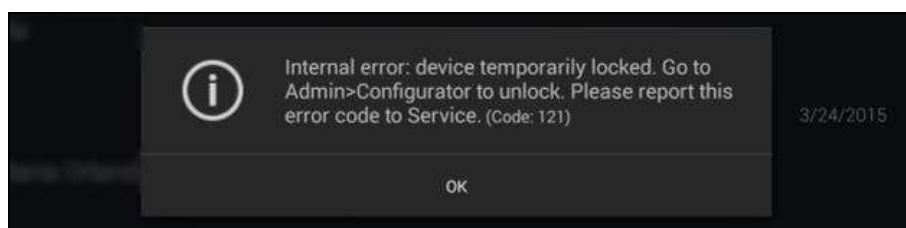

Fig. 22 – Example of error message
- Federal laws (US) restrict this device to sale by or on the order of a physician or a properly licensed practitioner.
- In case an unexpected hardware condition occurs during use, an error message may appear (see for example Fig. 22) and the device may become temporarily locked. It is possible to reset this condition by letting the device re-initialize: refer to par. 13.7 for the complete procedure. If the error condition persists, please contact an authorized service center.